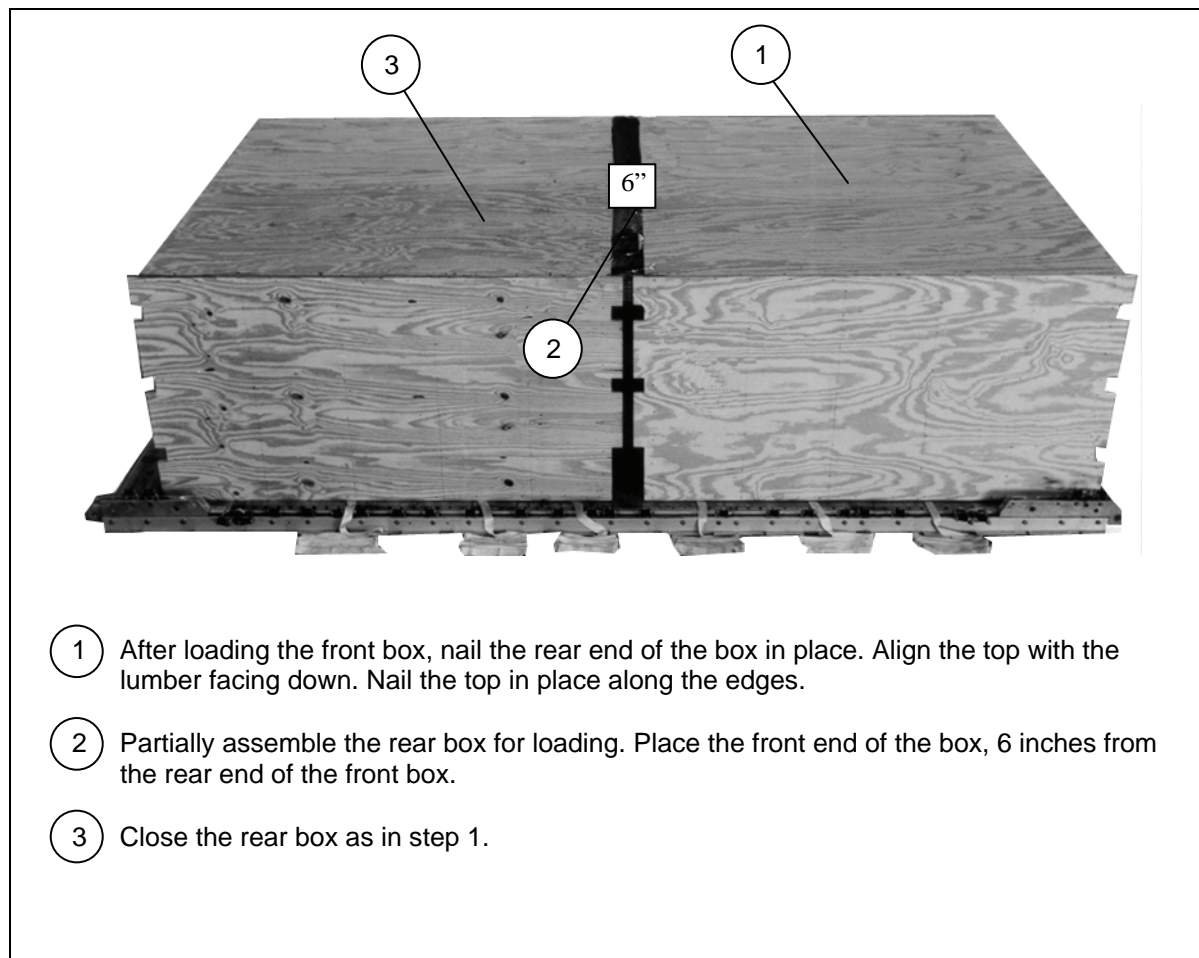

Figure 5-47. Boxes Closed
- Load the front box. Nail the inside end and top into place as shown in Figure 5-47.
- Load the second box and close it as shown in Figure 5-47.